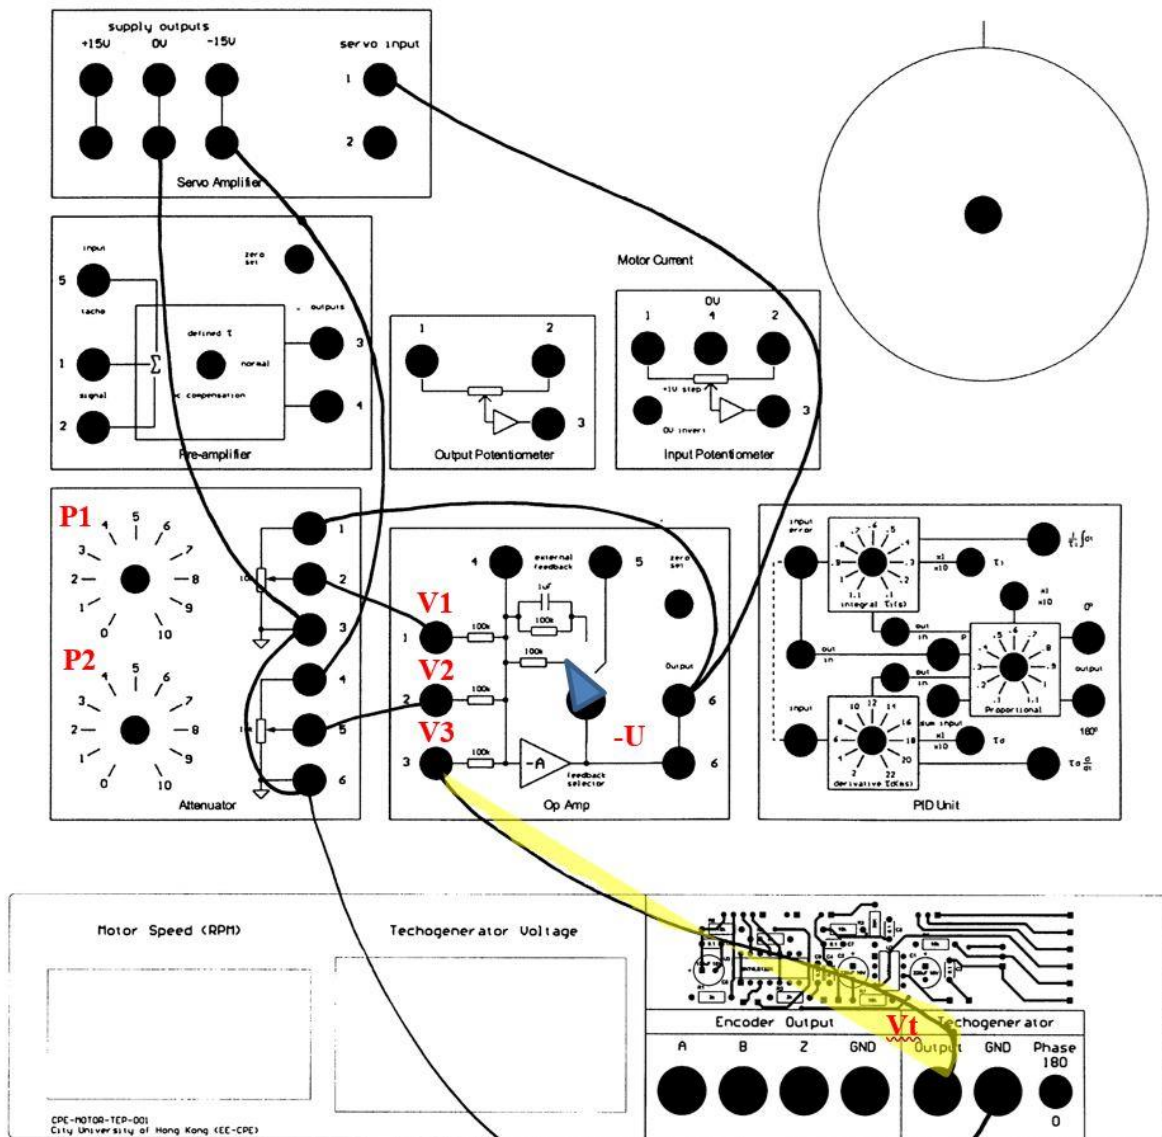

Figure 2.2
- **Shift the phase of the tachogenerator by 180°** (by tuning the switch at the low-right corner in Figure 2.2).
- Connect the devices as shown in Figure 2.2, except the feedback from the tachometer highlighted in yellow (thus, $V_t = 0$), which is the open-loop setting.
- Connect the output and the ground of the tachogenerator, as shown by the yellow-highlighted wire, in Figure 2.2, so $V_3 = V_t$